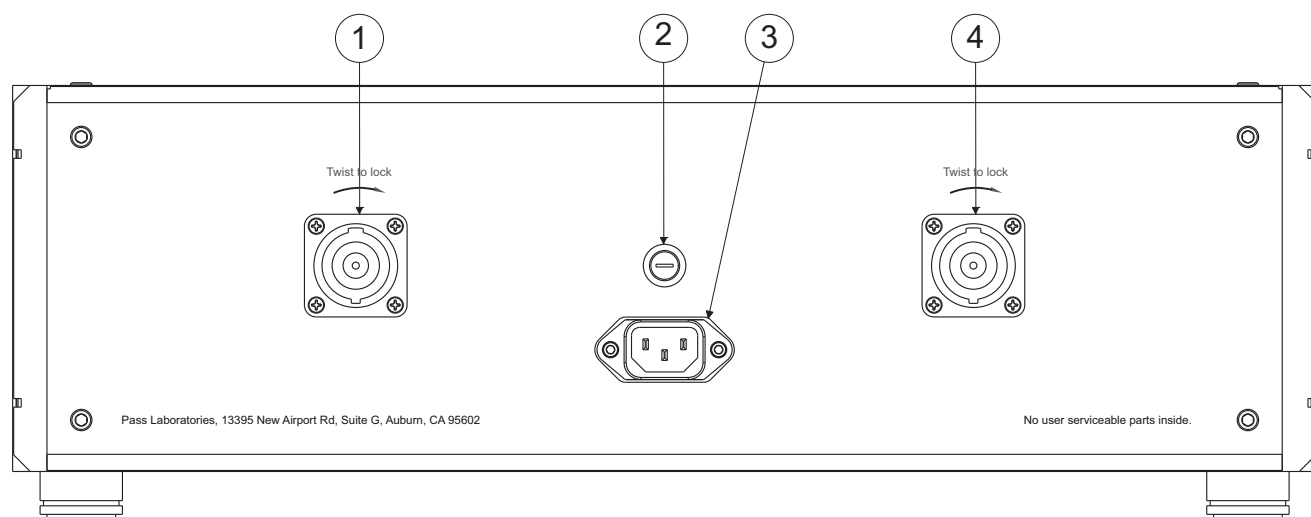

Figure 4.
a) Connect the two Powercon TM cables to the power supply chassis. (FIG 4, #1, #4)
4) Now you can plug the AC cord into the supply (Fig 4 #3) and the supply into the AC mains.